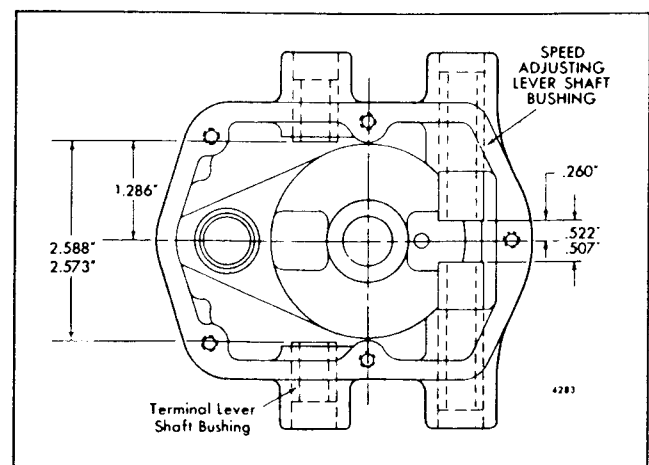

Fig. 12 - Location of Speed Adjusting Lever and Terminal Lever Shaft Bushings in Governor Housing
1. If removed, install new speed adjusting lever and terminal shaft bushings in the governor housing to the specified dimensions shown in Fig. 12.